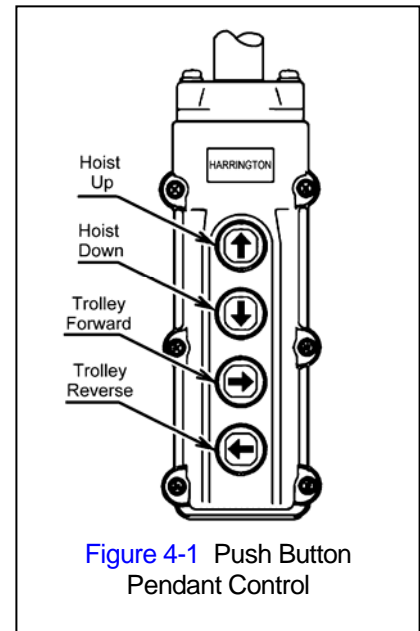

Figure 4-1 Push Button Pendant Control
4.3.1 Single Speed Pendant Control - When using the pendant control depress the Up button to raise the hoist's hook or the Down button to lower the hoist's hook as shown in Figure 4-1. Depress the Forward and Reverse buttons to move the trolley horizontally. To stop motion release the buttons.
4.3.2 Dual Speed Pendant Control – Pendant controls supplied with dual speed hoists or trolleys have two step control buttons. For low speed depress the button to the first step and for high speed depress the button fully to the second step. Use the Up button to raise the hoist's hook or the Down button to lower the hoist's hook as shown in Figure 4-1. Depress the Forward and Reverse buttons to move the trolley horizontally. To stop motion release the buttons.